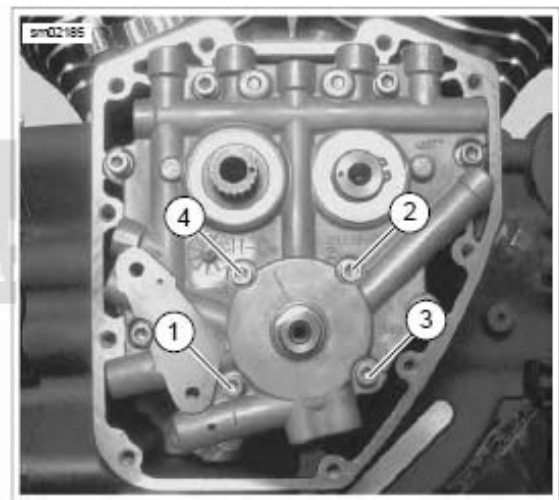

Figure 3-112. Oil Pump Torque Sequence
14. See Figure 3-112. Secure oil pump.